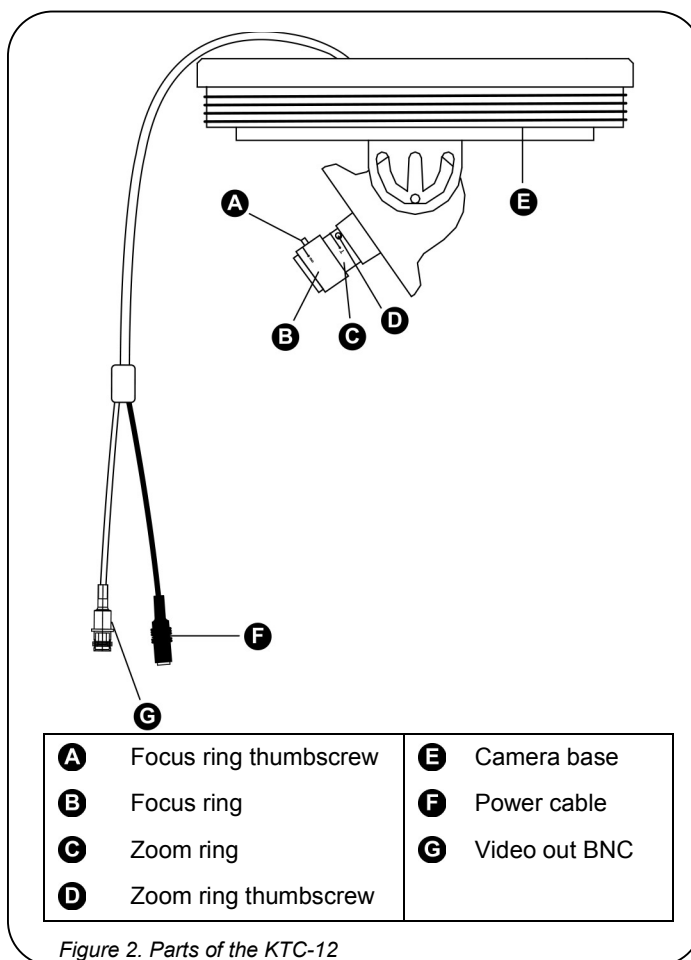

Figure 2. Parts of the KTC-12
- 5) Attach the camera's video out BNC connector (see Figure 2) to the receiving device's video in BNC connector.
- 6) Attach the camera's power cable (see Figure 2) to your power source.
- 1) Loosen the zoom ring thumbscrew (see Figure 2).
- 4) Loosen the focus ring thumbscrew (see Figure 2).